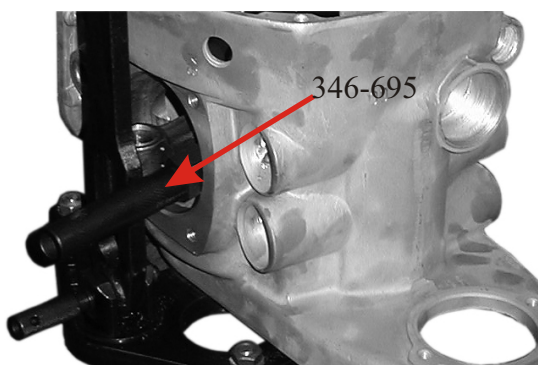

Fig.30
- Insert device 346-695 between journals and web on both sides (Fig. 30);